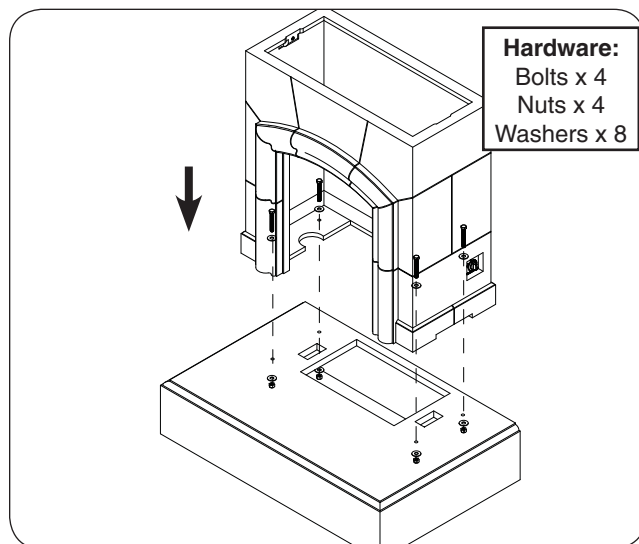

Fig. 13-2 Assemble body
2. Place the body piece on top of the hearth. Carefully align the pilot holes, and insert the hardware in the order shown in Fig. 13-2. Hand tighten, then use two $\frac{3}{4}$ " open end wrenches (or equivalent) to fasten.